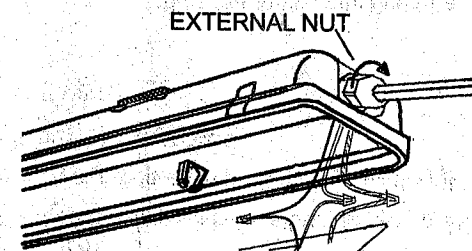

Figure 9
9. Feed supply wire through fitting. Make sure supply wire is long enough to make connection. See Fig. 9.
11. Tighten external nut on water-tight fitting to seal wire entering into fixture. See Fig. 9.